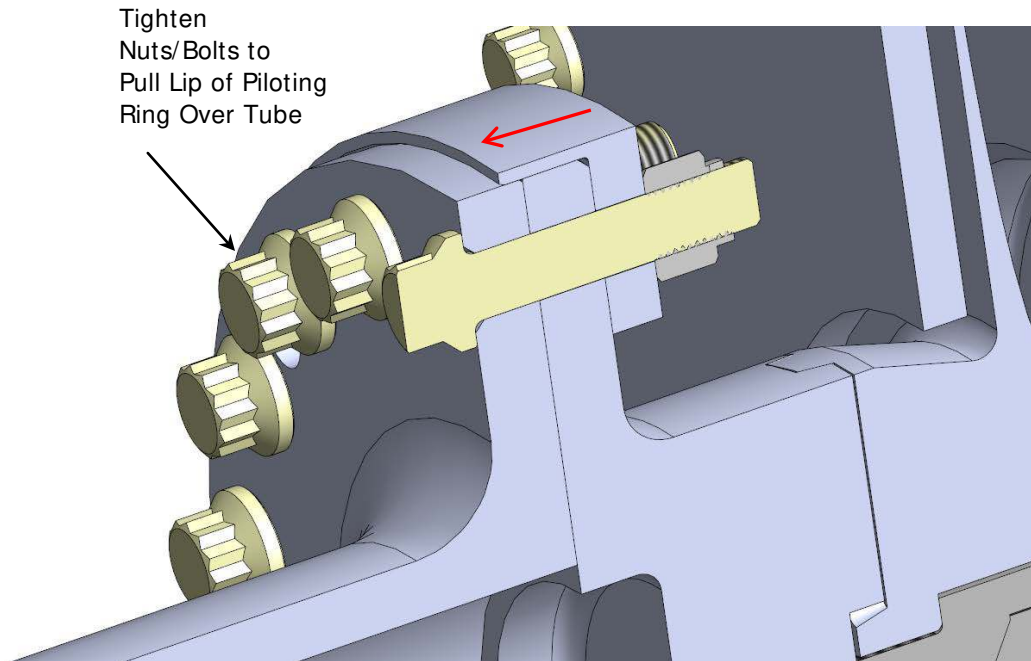

Figure 13 – Piloting Ring Fit Over Tube OD
4.2.3 While supporting the weight of the tube, tighten the bolts/nuts a few turns at a time in a criss-cross pattern to draw the piloting ring over the tube flange evenly (see Figure 13). Install the remaining bolts and nuts and torque evenly in a criss-cross pattern to the torque shown on drawing HC-7692.